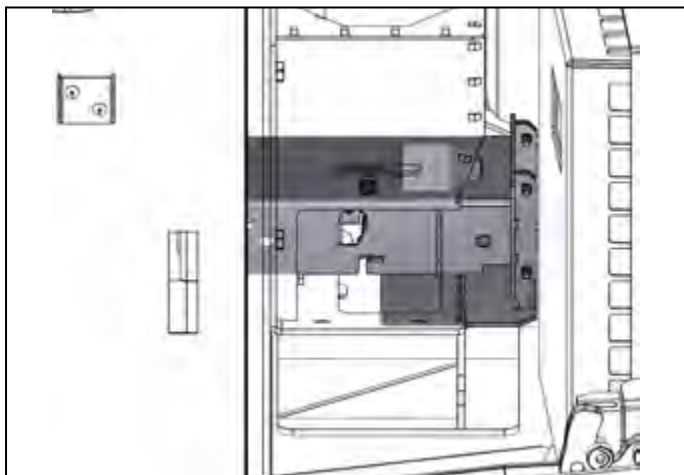

Figure 12-17: Brazier assembly removal to side
- Remove the brazier assembly from the burner. Pull to the right (until it touches combustion chamber wall) and then remove it from the front. Refer to Figures 12-17 and 12-18.